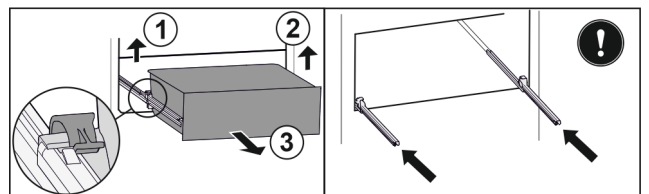

Fig. 142
- ▶ Lift left clamp and simultaneously pull drawer forwards on the left. Fig. 142 (1)
- ▶ Lift right clamp and simultaneously pull drawer forwards on the right. Fig. 142 (2)
- ▶ Remove drawer to the front. Fig. 142 (3)